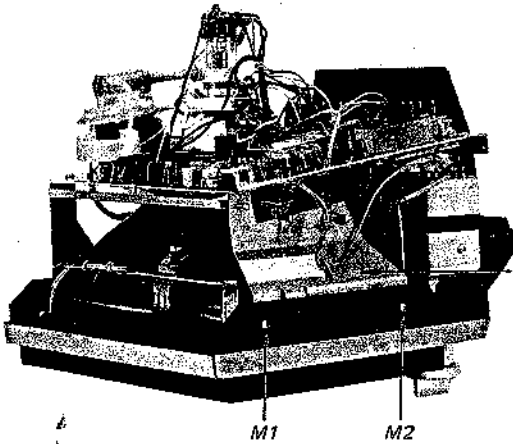

Fig. 2-21.
6. Remove the two screws labeled M1, M2 in Fig. 2-21.